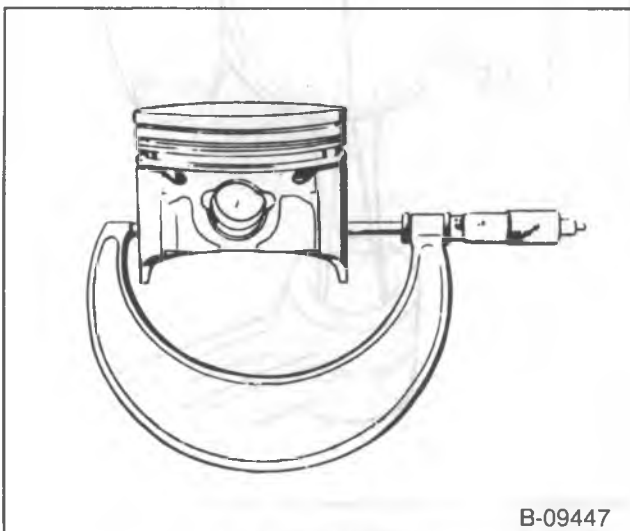

Figure 12—Measuring the Piston Skirt
- Piston diameter. Measure the piston skirt at a right angle to the piston pin, at the centerline of the piston pin (figure 12).